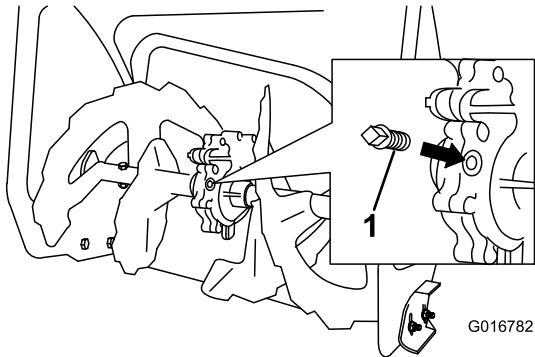

Figure 45
- 2. Clean the area around the pipe plug (Figure 45).